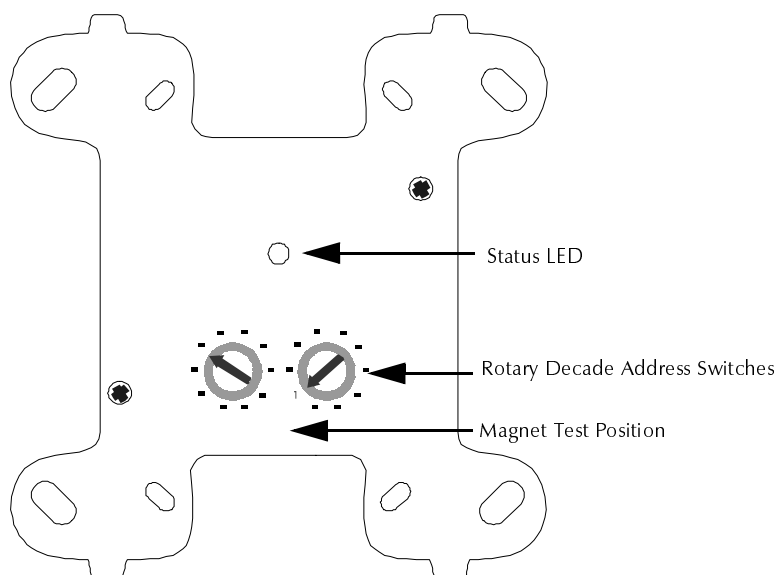

Figure 27 MMX-2 Module
**Test Switch** The MMX-1 includes a magnetic test switch located near the center front of the module (shown in Figure 27, "MMX-2 Module," on page 44). Activation of this switch will cause an open circuit indication in the Style B and Style D SLC.